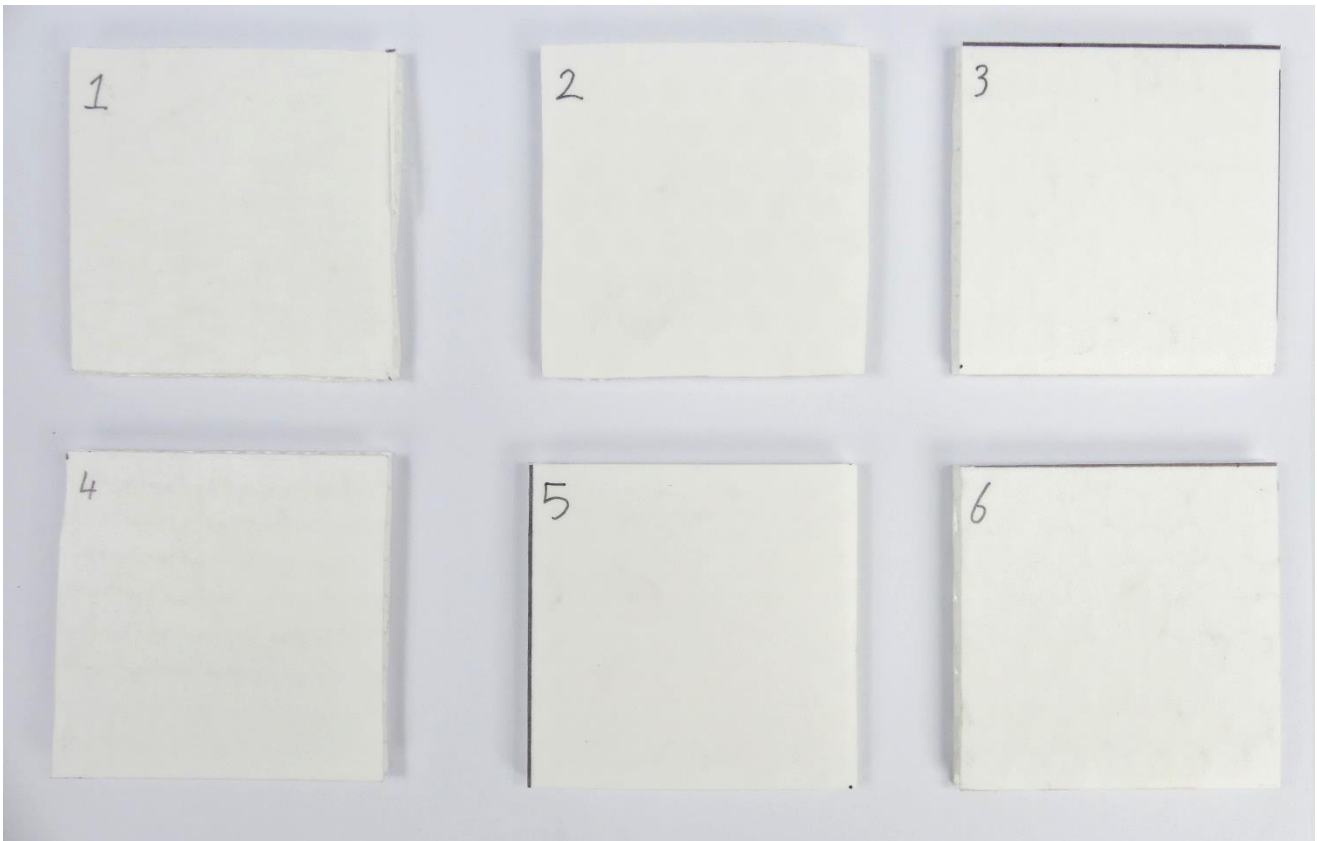

Figure 1. 8 mm Protecta Board specimens.
Specimen Description:	Six (6) 8 mm Protecta Boards, nominal size 100 x 100 mm (Figure 1).